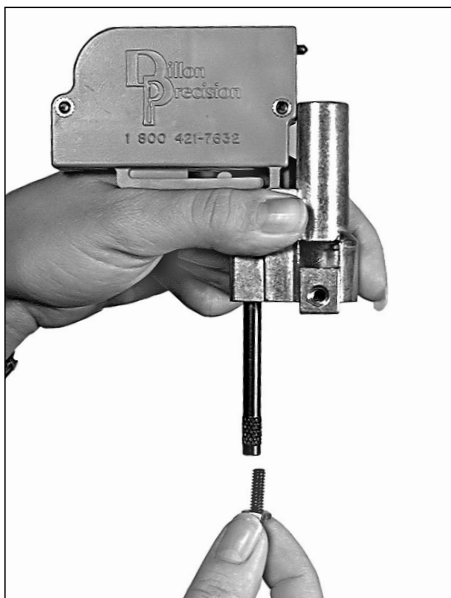
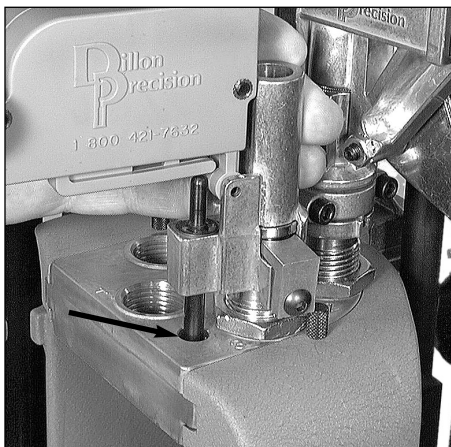

FIG 107
FIG 108
4. Remove the 10-24 screw and nut from the black push rod **FIG 107** and place the powder check system on the powder check die **FIG 108**. Center the black push rod (see arrow **FIG 108**) in the hole that is to the left of the die.